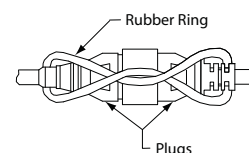

Figure 2 — Secure Plug With Rubber Ring
4. Use the (2) rubber rings to secure all plugs as shown in Figure 2.